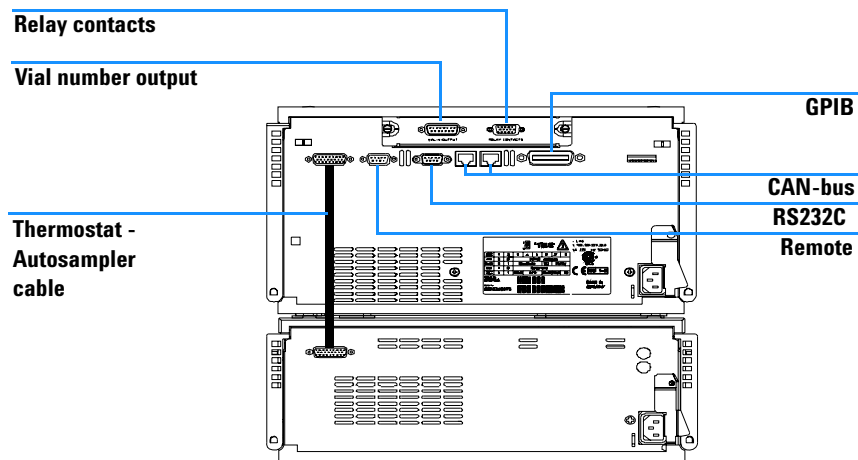

Figure 9 Cable Connections
- 10 Connect the cable between the Autosampler and the Thermostat, see Figure 9 on page 33.